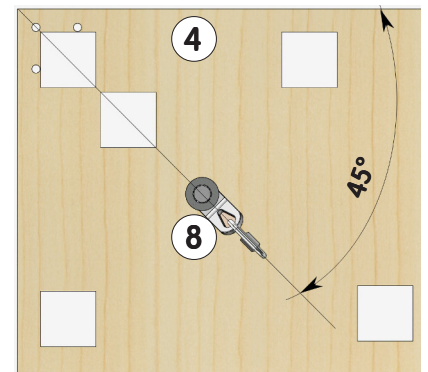

Figure 17
- Detach each angle panel **(3)** or **(4)**, then drill one 15 mm dia. hole into the outer angle, 20 cm away from the edge (**Fig. 17**).
- Insert a screw nut **(9)** into the top of the panel **(3)** or **(4)**, then secure it using two wood screws **(10)** as shown in **Fig. 17**